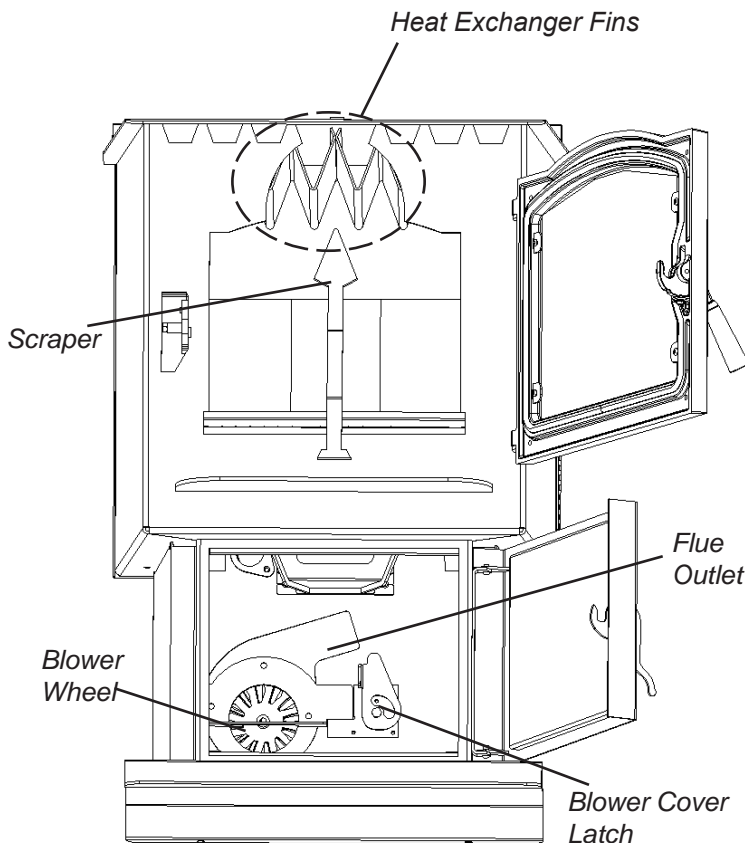
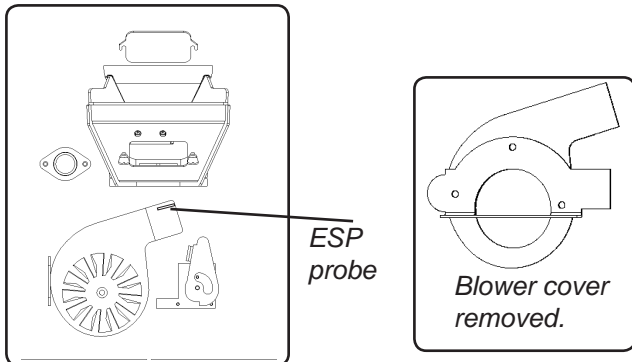

Fig 27
Fig. 30
2. Clean heat exchanger with scraper as shown in fig 27.
7. Remove combustion blower cover by turning the blower cover latch vertical, see Fig.26. Sliding the cover out of the slot on the left. This will expose the combustion blower wheel and flue outlet, Fig.27.
9. Use a brush to clean the flue, being careful not to damage the ESP probe, see Fig. 30. The flue goes straight through into the vent pipe (Fig.27) therefore, the vent pipe can also be cleaned to some extent through the flue outlet.